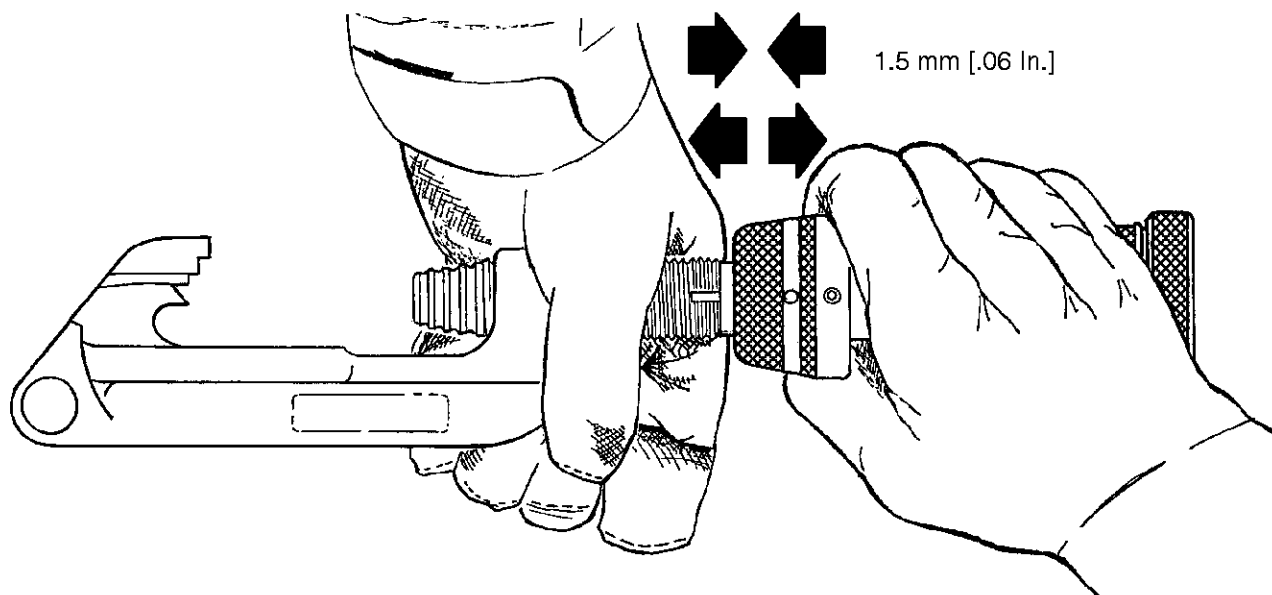

Figure 36
DANGER If the tool fails to fire, wait two minutes before attempting to remove tool. After two minutes, remove tool from tap, remove and dispose of old shell, and reload with **new** shell exactly as described in 6.3, Preparing the Tool for Tap or Stirrup Removal. If the tool still fails to function, inspect power unit for proper coupling movement. Refer to Paragraph 7.2 and Figure 36.
1. Hold coupling steady in one hand and move breech cap assembly back and forth with other hand as shown in Figure 36. There should be approximately 1.59 mm [.06 inch] of movement.